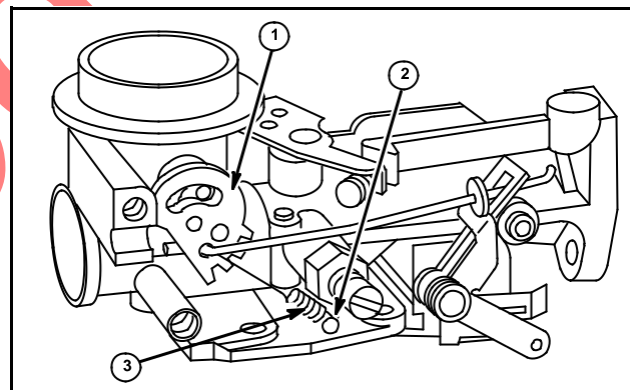

Fig. 80
NOTE: Hook small end of spring (3) on spring post (2) and long hook in bottom hole of choke shaft (1), Fig. 80.